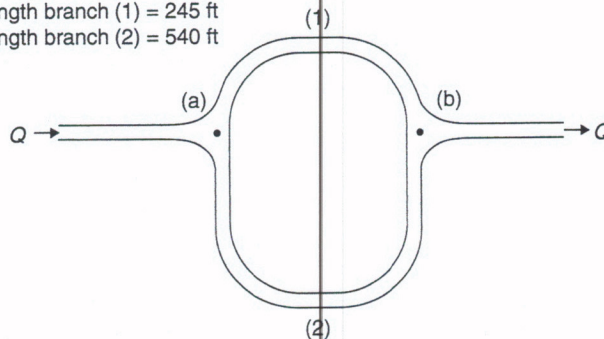

Figure 1.59
38. Water at  $25^\circ\text{C}$  flows at 3.2 gpm through the multipath pipeline in Figure 1.59. Calculate the volumetric flow rate in each branch and the pressure drop between points (a) and (b). Note: the pressure drop across each branch is the same and is equal to the pressure drop from (a) to (b). Equation 1.93 shows us that since  $\Delta P$  is the same, then the head loss  $h_f = \frac{\Delta P}{\rho g} = \frac{2fLV^2}{Dg}$  in each branch is the same. The mass balance provides a second relationship between the two velocities, allowing the problem to be solved.